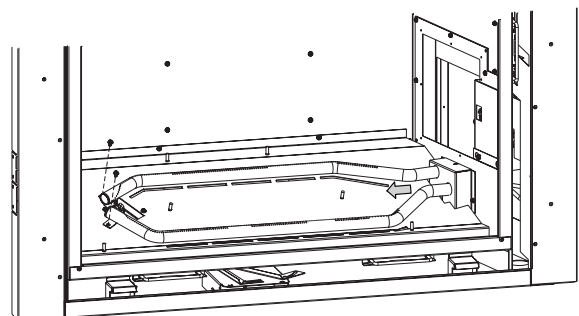

Figure 7
2. Remove front and rear burner (**Figure 7**).